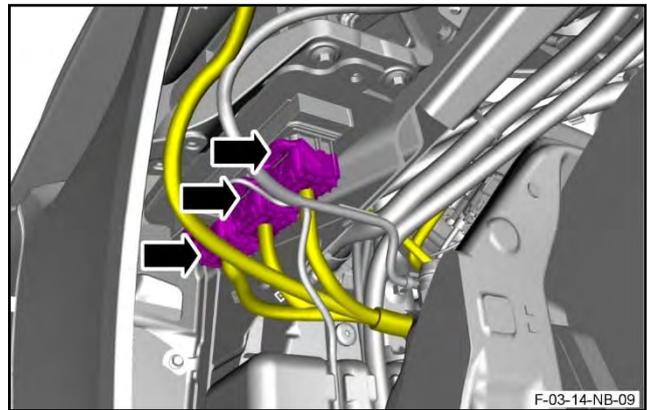

Figure 70
99. Connect the three electrical connectors to the PCM (refer to Figure 70).